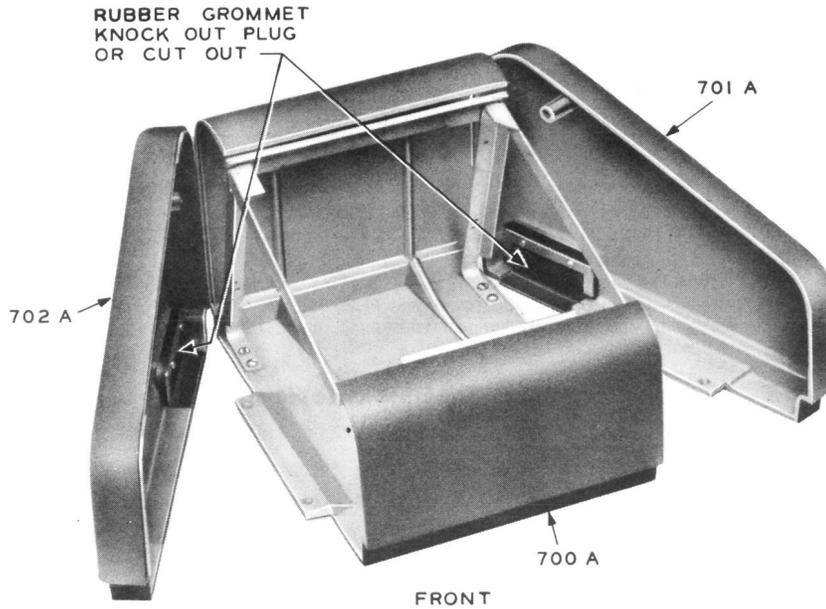

Fig. 7 - Assembly of Aluminum Apparatus Case
1. Aluminum apparatus cases are assembled for single key units as shown in Fig. 7.
4. Select side where cable is to enter apparatus case and remove rubber plug corresponding to size of cable (Fig. 7).